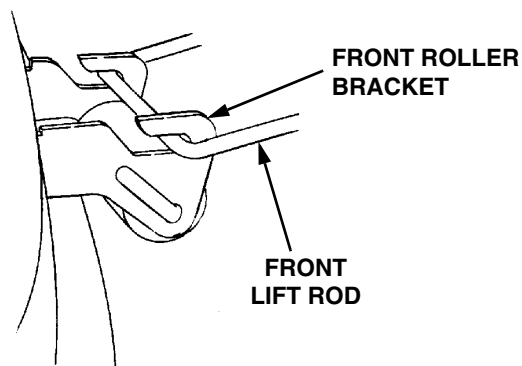

Figure 31
6. While holding the front lift rod up, slide the mower deck forward until the rod aligns with both front roller bracket slots. Lower the lift rod into the front roller bracket slots and slide the deck rearward to engage the lift rod fully forward in the slots of the deck front roller bracket (See Figure 31).